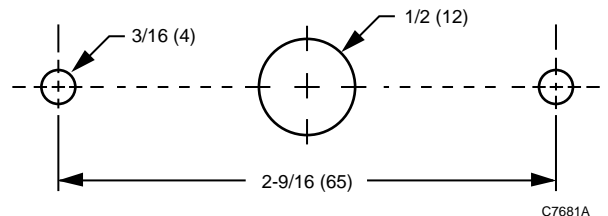

Fig. 2. Clamp template dimensions in in. (mm).
2. Align the gasket hole with the clamp hole (Fig. 2).